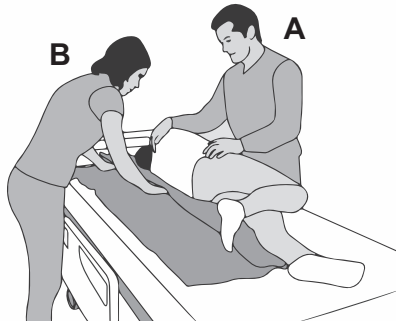

Figure 5
5. (Caregiver B) Place the sliding aid under the patient. **(See Figure 5)** With shorter sliding aids, place the sliding aid under the body part that is being adjusted.